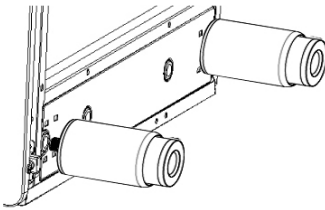
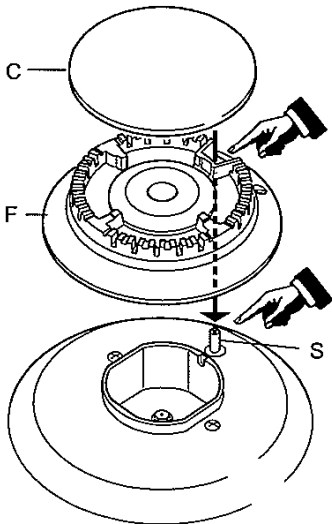

Fig.3
fig.1
3. Oven feet installation. (Figure 3)
For a lower and more efficient gas consumption, it is advisable to use pans with a diameter adequate to the burners size (fig.1 and 2), preventing the flame to burn in the open (fig.3).
It is very important to check that the burner flame spreader“F”and the cap“C”have been correctly positioned (see figs.1 and 2).
In appliances with electric ignition, check that the electrode“S”(fig.1)is always clean to trouble-free sparking.